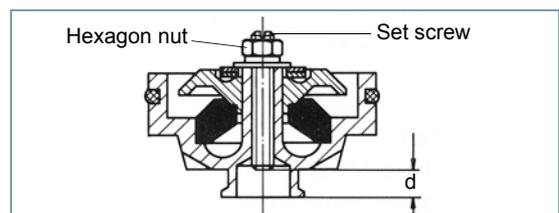

Fig. 4 Dimension d (Device with one rubber spring)
- Adjust dimension  $d = C + 0.8$  mm in the graduating piston by turning the set screw (see fig. 4).